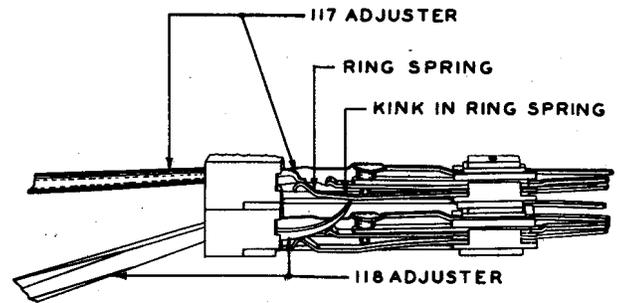

Fig. 3 - Method of Adjusting Ring Spring Down
(c) If the butting condition is caused by the ring spring, adjust it downward as follows. The difference between the butting condition on the ring spring and the butting condition on the tip spring can be noted from the position of the 114B gauge in the jack at the time the butting occurs. Insert the 118 adjuster as far as possible into the jack beneath the jack being adjusted so that it rests firmly against the underside of the spring to be adjusted. While holding the 118 adjuster in this position, insert the 117 adjuster into the jack to be adjusted applying it at the crimp of the spring as shown in Fig. 3. Depress the ring spring until the butting condition is eliminated. In the case of jacks in strips mounted at the bottom of the multiple or above strips of lamps, it will not be possible to use the 118 adjuster. Adjust the ring spring down using the 117 adjuster. When the 117 adjuster is inserted the proper distance into the jack, the scoring on the side of the adjuster will be approximately $3/16$ inch from the face of the jack strip. In adjusting the ring spring take care not to introduce a ring cutout. If a check indicates a ring cutout, adjust the ring spring up slightly with the 117 adjuster applied at the crimp of the spring. After making this adjustment, recheck for a butting condition.
(6) **All Jacks Except 229 Type:** Insert the 115B gauge into the jack with a rotary motion and lift it sufficiently to take up the play in the jack sleeve. If the tip and ring springs of the jack cross as indicated by the jack test circuit, remove the jack strip from the multiple and observe the shape of the ring spring. If the ring spring does not have a definite kink in it across the spring approximately two thirds the distance from the insulators to the crimped end of the springs as shown in Fig. 3, replace the jack strip.